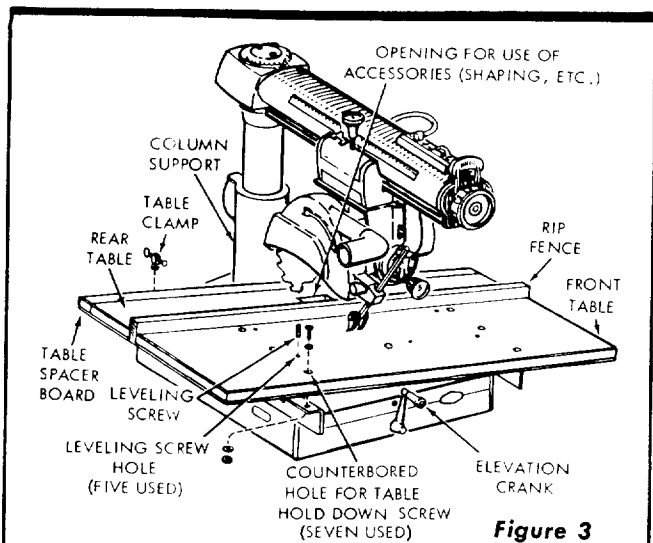
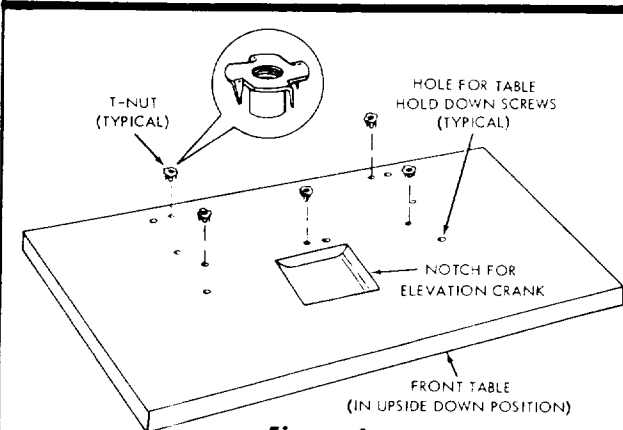
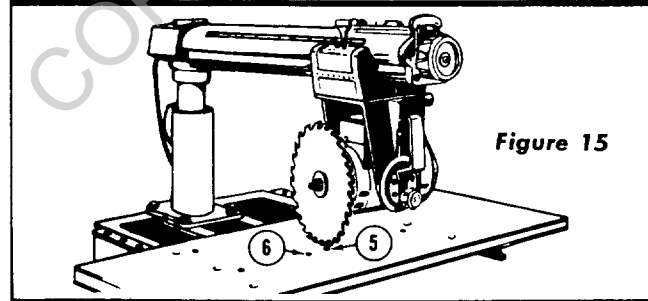

Figure 3
Figure 4
Figure 15
The saw should be placed on a suitable sturdy work bench and the base positioned so that the elevation crank is free to rotate. (See figure 3.) The base of the saw must be mounted flush to a flat surface on the work bench to prevent distortion of the saw base. The nuts, screws, and washers which attach the wooden shipping skids to the saw base may be used to secure the saw base to the work bench.
1. Place the large table board upside-down on floor. The bottom side has a notch (cutout) for clearance of elevation crank. (See figure 3.) Distinguish between the five through-bored (leveling screw) holes and the seven counterbored holes. Drive T-nuts into the five through-bored holes. (See figure 4.)
2. Place the large table board on channels as shown in figure 3.
2. Insert a set screw (leveling screw) into each of the five leveling, T-nuts. (See figure 4.) Insert screws from the top side until they just touch the top of the base.
12. Move the saw blade to center of table. If the table is low at this point, raise it by adjusting the screw (point 5, figure 15). It may be necessary to back off the screw (6) to provide proper clearance.
13. If the table is high at the center, lower it by tightening the screw (6). When the table is adjusted parallel to the radial arm, rotate the set screw (5) clockwise until it bottoms on the base. This will serve as a lock for the adjustment of screw (6).
14. Place the rip fence in vertical position behind front table board. (See figure 3.)
17. Install the table clamps at locations shown in figure 3 and tighten them securely against the edge of table spacer.